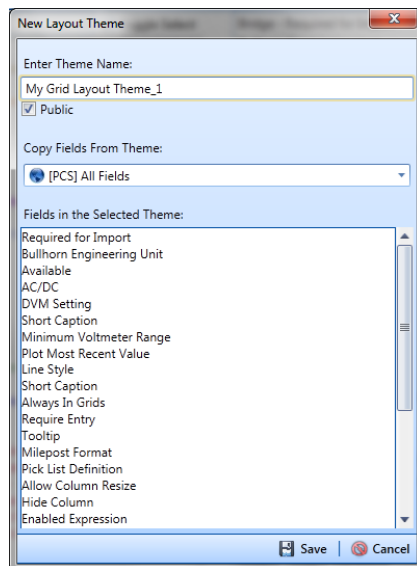

Figure 2-20. New Layout Theme
- 3 Click  **Add** to open the *New Layout Theme* dialog box (Figure 2-20).